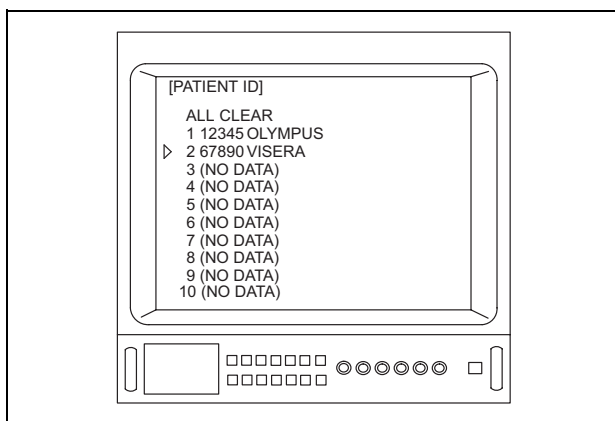

Figure 5.52
4. Depress the menu switches "◀" or "▶", or the "↑/↓/←/→" key on the keyboard to move the arrow "▷" to the patient number that you would like to display (for example, "2") (see Figure 5.52).